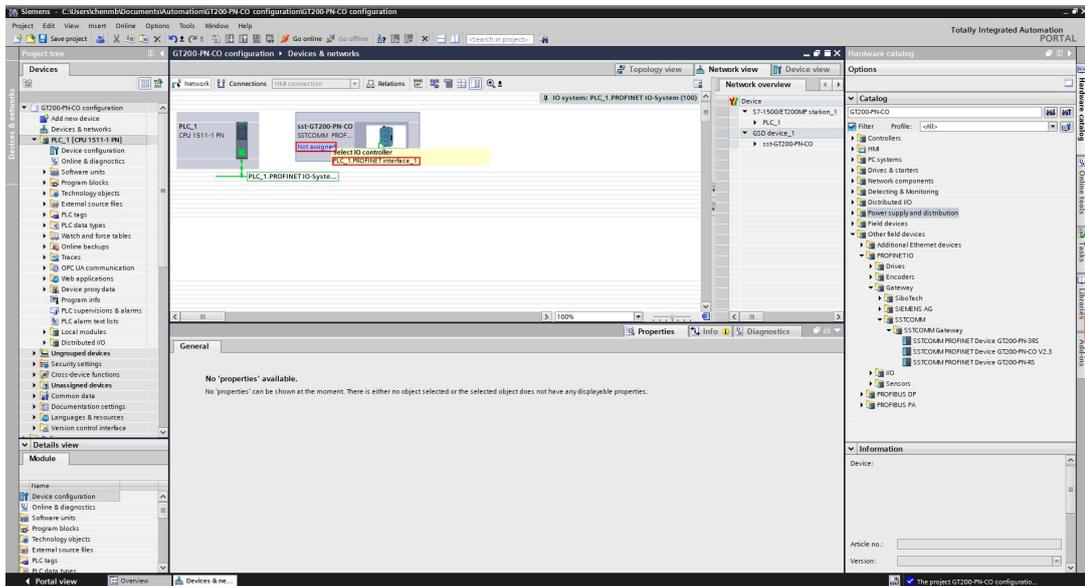

Figure 15: Connect GT200-PN-CO to PROFINET bus
3.7 Click "Not assigned" in "sst-GT200-PN-CO", select "PLC_1.PROFINET interface_1" to connect it to the PROFINET bus of PLC, as shown in Figure 15.